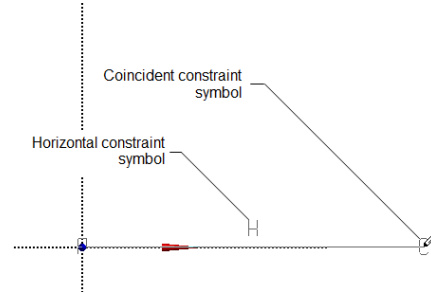
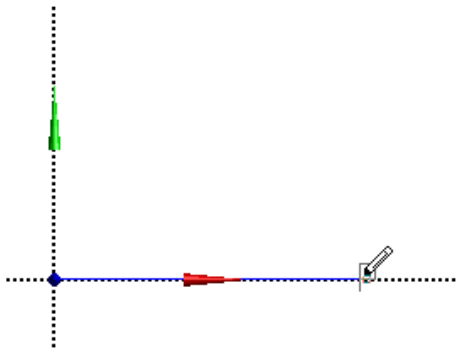

Figure 3-20 Specifying the end point of the line
Figure 3-21 Specifying the startpoint of line 2
8. Move the cursor toward right to some distance and click to specify the end point of line when the symbol of Horizontal constraint (**H**) is displayed, as shown in Figure 3-20. Line 1 is created and its blue color indicates that the line is fully constrained, refer to Figure 3-21.
9. Next, move the cursor close to the end point of line created in the last step; the symbol of Coincident Point constraint (**P**) is displayed. Click to specify the start point of the second line, refer to Figure 3-21.
3. Select lines 1, 3, 5, 7, 9, and 11 one by one to make them horizontal, if not already horizontal, refer to Figure 3-20.